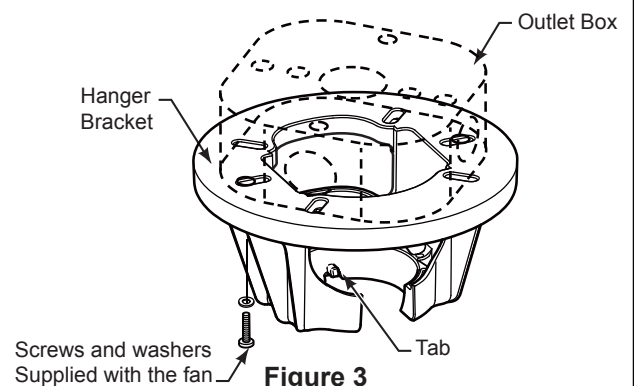
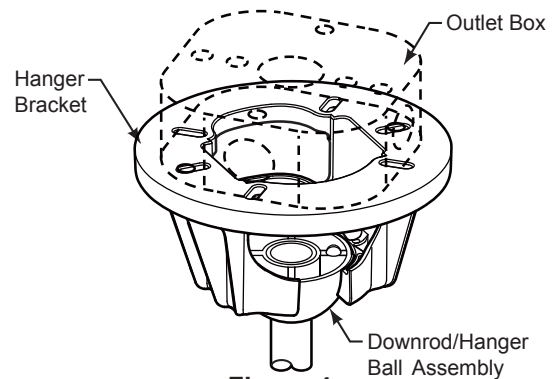

Figure 3
Figure 4
- ☐ 4. Slide downrod into the downrod support on top of the motor. Install the clevis pin by aligning the holes in the downrod support with holes in the downrod. Secure clevis pin with hairpin clip. Install the two set screws with nuts in the downrod support. Securely tighten the set screws with screwdriver then fully tighten the nuts using the hex wrench. (Figure 4)
- ☐ 3. Carefully lift the fan and seat the downrod/hanger ball assembly on the hanger bracket that was just attached to the outlet box. (Figure 4) Be sure the groove in the ball is lined up with tab on the hanger bracket. (Figure 3)
3. Connect wires using connectors as shown in Figure 4.
- ☐ 4. If installing the light kit, skip this step. Assemble the light kit wire cover to the light kit using the two key slots. Replace the removed screw and secure all three screws. (Figure 4)
- ☐ **4.** If you need to replace the batteries. Remove the battery cover from remote control by screwdriver and retain the screw for later. (Figure 4)